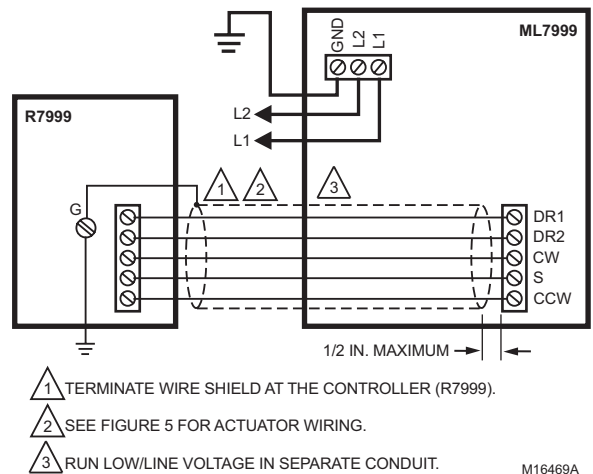

Fig. 6. Typical ML7999 wiring.
Connect the shield ground of the ML7999 Actuator(s), Remote Reset, Manual Potentiometer, Controller 4-to-20 mA and Auxiliary 4-to-20 mA inputs to the earth ground strip provided in the Q7999 Universal Subbase. Connect the shield at the controller end only. See Fig. 6.
3. Wire the low-voltage circuit to the R7999. See Fig. 6 for typical wiring connections.
5. Wire the line-voltage circuit. See Fig. 6 for typical wiring connections.